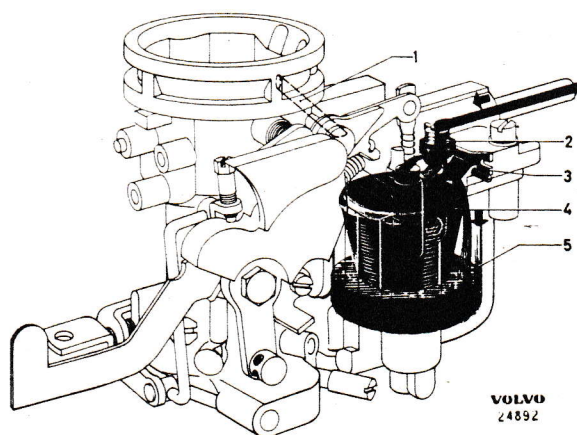

Fig. 9. Float system
The float keeps the fuel at the correct level. When the fuel has increased to this level the float (4, Fig. 9) is lifted upwards and pushes the needle in the valve (2) against its seat through the medium of the float arm so that the flow of fuel is cut off. When the fuel level goes down the same procedure is repeated but in the reverse direction. The float bowl is ventilated through a hole (1) which is connected at the top with the upper part of the carburetor. The float is made of nylon and is fitted with a fixed arm.